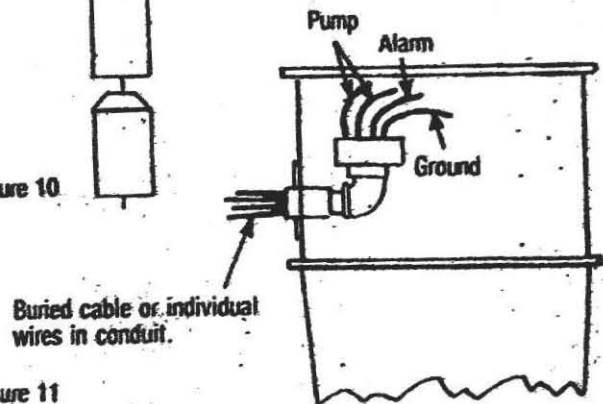

Figure 11
B. Enter the 1½" conduit flange and pull the wires up into the junction box so the leads stick out about 6". The alarm wires should be marked or color coded so they can be identified. (See Fig. 11).